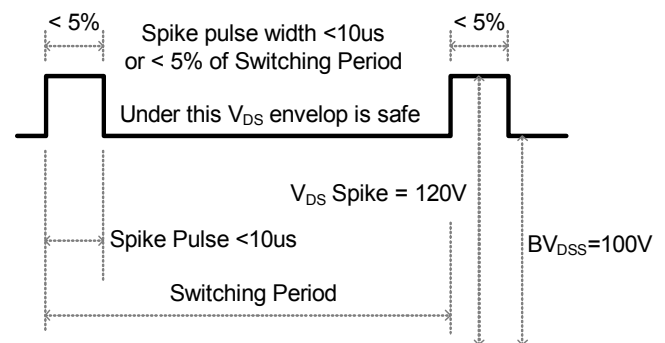

Figure 1. V_{DS} Spike Duty Cycle
2. The V_{DS} Spike duty cycle must < 5% max and spike width < 10μs(max) in every frequency period, limited by junction temperature $T_J(max)=125°C$. Refer to Figure 1.